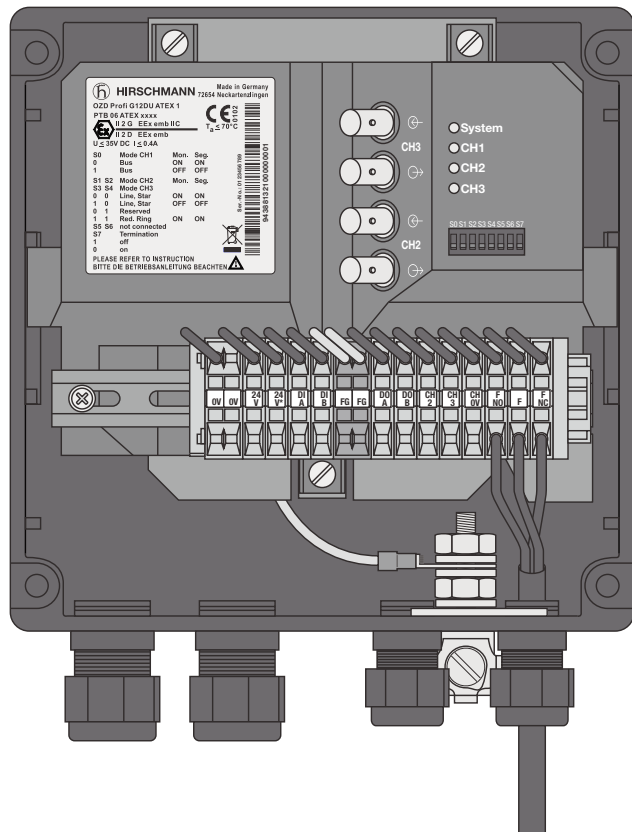

Fig. 27: Cable lead-through of the signalling contact for OZD Profi G12DK ATEX 1 (OZD Profi ... DE ... : analog)
- ▶ Lead the signalling contact cable for OZD Profi G12DK ATEX 1 and OZD Profi G12DE ATEX as shown in figure 27 through the cable entries (PG-glands).
The reception level of the two optical channels CH 2 and CH 3 can be determined with a standard voltmeter on the terminal block (see fig 27 and 28). The OZD Profi G12D... ATEX 1 is protected against a short-circuit on the terminals, brief interruption of data transmission is however possible*.